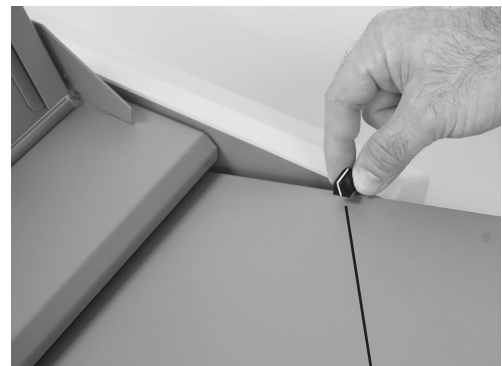

Fig. 2
2. Lock the fold table into position (FD 38X Only) (Fig. 2)